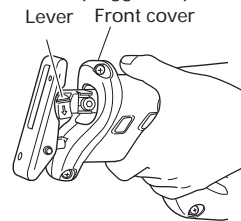
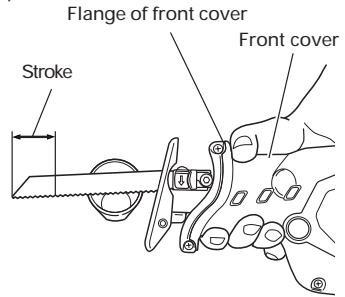
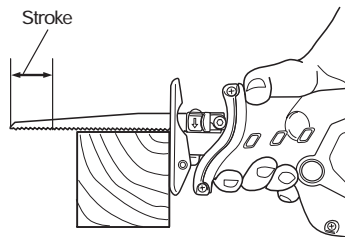

Fig. 1
Fig. 17
Fig. 18
- (1) Turn on and off the switching trigger several times so that the lever can jump out of the front cover completely. Thereafter, turn off the switch and unplug the power cord. (**Fig. 1**)
- (1) Turn on and off the switching trigger several times so that the lever can jump out of the front cover completely. Thereafter, turn off the switch and unplug the power cord. (Fig. 1)
- Do not remove the front cover (refer to Fig. 1). Hold firmly the front cover by hand to operate. But, do not extend your hand or finger beyond the flange (see Fig.17) of front cover to avoid an injury.
- Select a saw blade of the most appropriate length. Ideally, the length protruding from the base of the saw blade after subtracting the stroke quantity should be larger than the material (see Fig. 17 and Fig. 18).